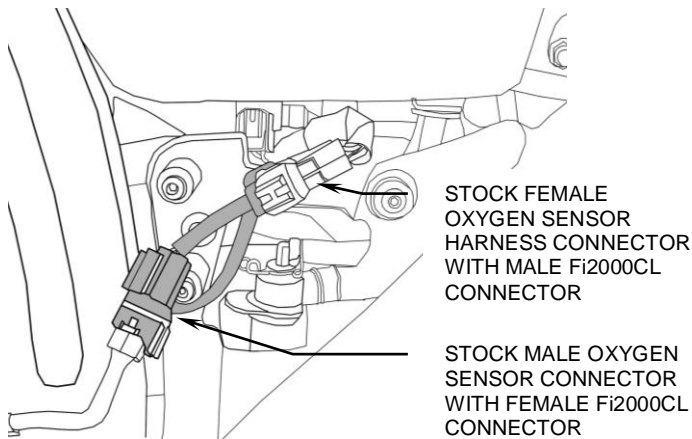

FIGURE 3
6. Remove the door from the Fi2000R module to expose the LED's. **NOTE:** The Fi2000R base pot settings come preset from the factory for the V-Star 1300, shown in (Figure. 3.) Verify the wire connections by, (1), turning the ignition on while watching the 3 LED's. They will all light up for a few seconds, and then go off. This is correct. If there are no lights visible, make sure the side stand is up, bike is in neutral, clutch is in and handlebar engine switch is set to run. If there are still no lights visible, re-check that all connectors are fully engaged and the ground wire is connected correctly. (2), after achieving a steady light from all three LED's, start the motorcycle; the green light should now be the only LED on. If all three LED's are still on after start up, verify the injector connectors are correctly attached. Reattach the access door when finished and install the remaining components. **NOTE:** Make sure the ignition is turned off before changing any connections.